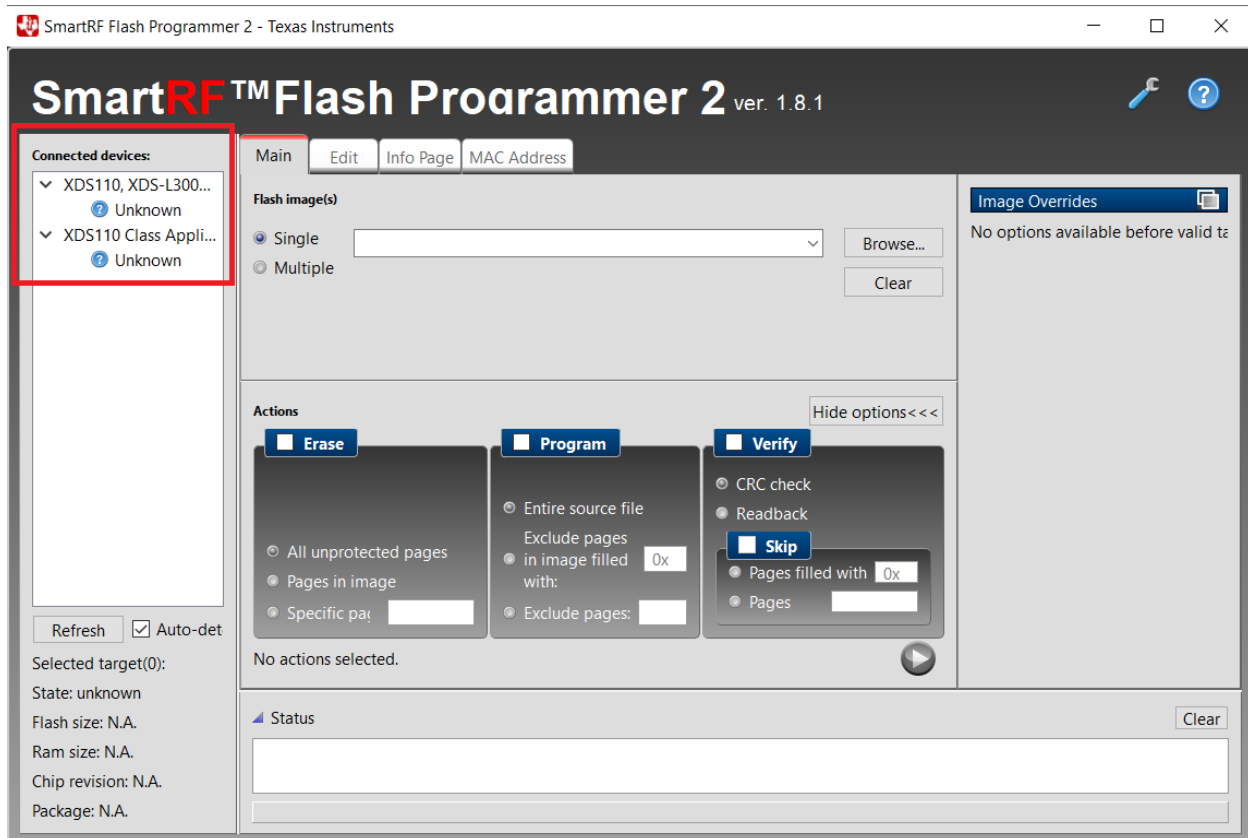

Figure 38, SmartRF Flash Programmer 2 PC Application
- c. The Android Studio Setup welcome screen should appear (Figure 38). Click Next.